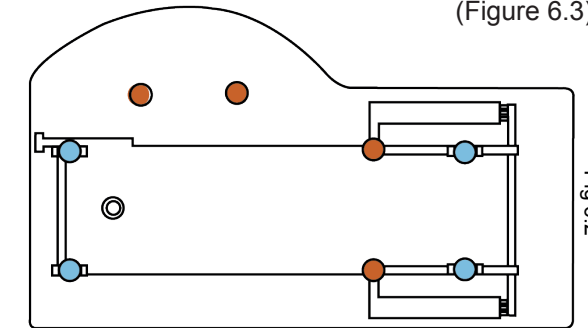

Fig 6.2
6. Tighten the adjusting nut until the flange slopes inward. Check with spirit level and tighten the lock nut. Level the bath using the four corner feet, shown in blue on figure 6.2.